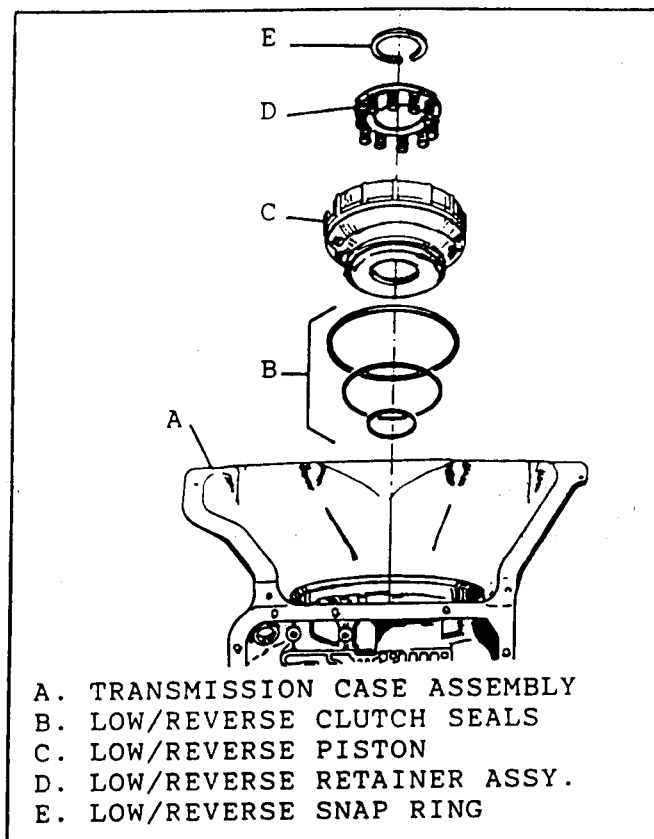

Figure 76
4. Remove the lo/reverse return spring assembly from the case (Figure 76).